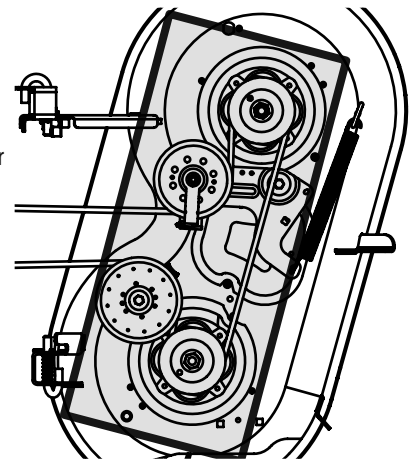

Figure 31
- Clean the top of the mower deck, under the spindle covers and belt area. See Figure 31.